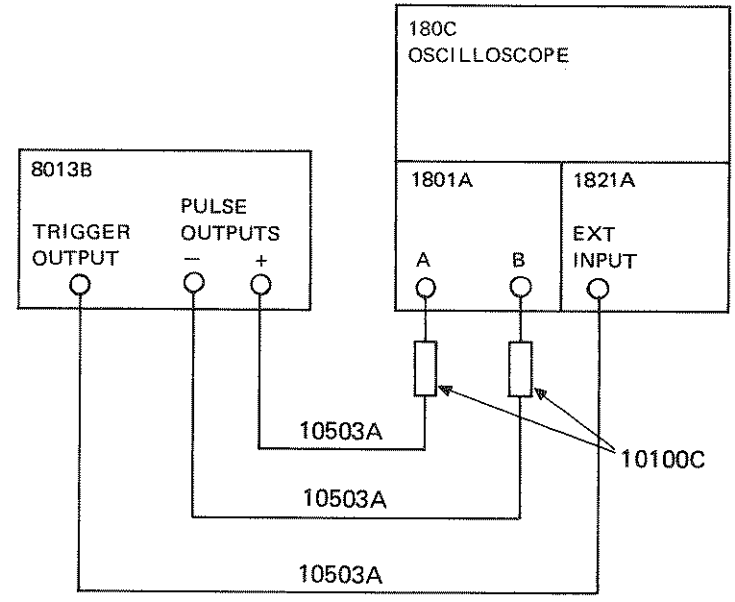

Figure 3-4. Initial control settings and test equipment
3-14 In this mode the 8013B requires no external signal to produce an output signal. Rate, delay, width, amplitudes etc. are all adjustable from the front panel controls. The initial control settings (also shown in Figure 3-1) are given to assist someone unfamiliar with the operation of the 8013B. The positive and negative pulse outputs (17) and (18) and the TRIGGER OUTPUT (21) should be connected to an oscilloscope using a 50 ohm system (as shown in Figure 3-4). The oscilloscope (an HP 180C mainframe with 1801A and 1821A plug-ins) should be set with the sweep time at $20 \mu\text{s}/\text{div}$ and the sensitivity at $2\text{V}/\text{div}$.
- PULSE PERIOD ② .1m-10m
- VERNIER ③ CCW
- PULSE DOUBLE/NORM ④ NORM
- PULSE DELAY ⑤ 1μ-1m
- VERNIER ⑥ CCW
- PULSE WIDTH ⑦ 1μ-1m
- VERNIER ⑧ Center
- AMPLITUDE ⑨ 2.0-5.0
- VERNIER ⑩ CW
- OFFSET VERNIER ⑪ Center